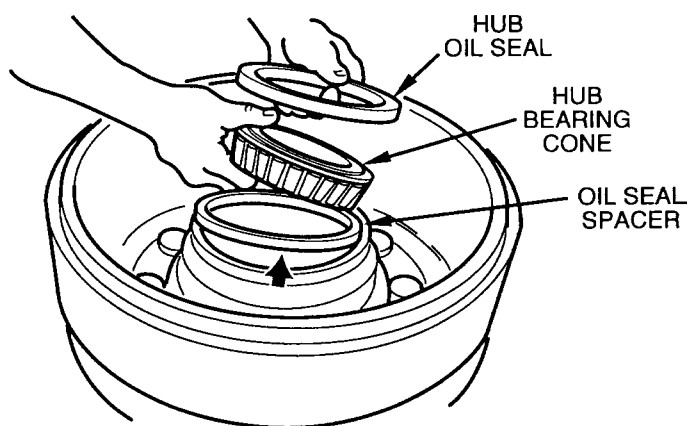

Figure 7 Removing Inner Bearing
6. Drive out the oil seal (39) and the wheel bearing spacer (40).
7. Lift out the inner wheel bearing cone. (See Figure 7).